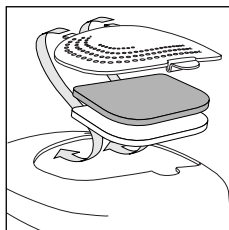

fig. 13
N.B: The white filter must rest on the metal part (Fig. 13) and the coloured area must face upwards (towards the black filter).